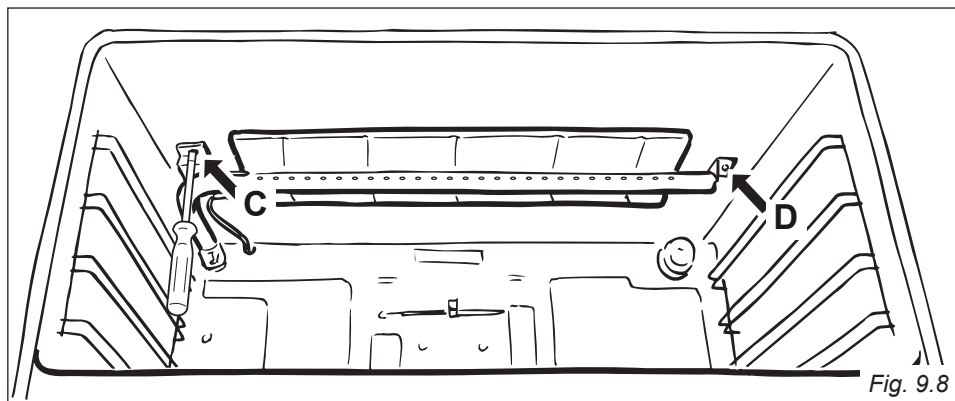

Fig. 9.8
- Unscrew and remove the burner securing screw “C” (fig. 9.8).
- Slacken screw “D” (fig. 9.8).